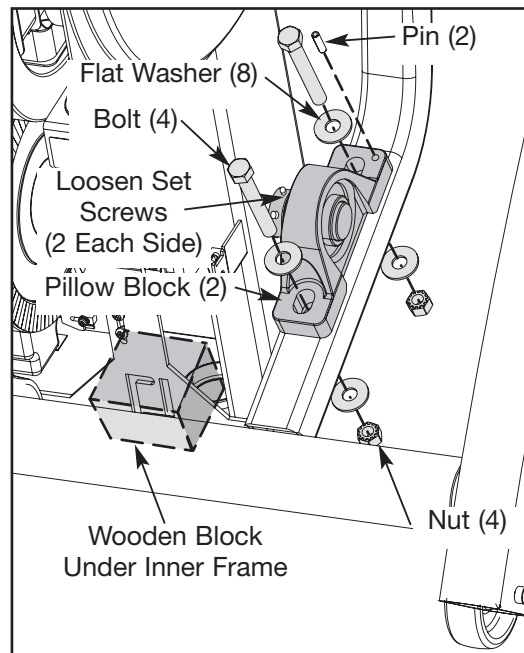

Figure 22
- A. Place a wooden block under the inner frame. See Figure 22.
- B. Using a 9/16" socket wrench and a 9/16" open end wrench, remove the two bolts, four flat washers and two nuts from each of the bottom pillow blocks. See Figure 22.
- C. Pull each pillow block and pin off the frame. See Figure 22. **NOTE:** You may need to tilt the pillow block up or pry it up off the frame. There is a pin in each pillow block.
- D. Remove the wooden block from under the inner frame. See Figure 22.